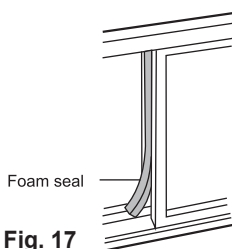

Fig. 17
5. Cut the foam seal to an appropriate length and seal the open gap between the top window sash and outer window sash. See Fig. 17.